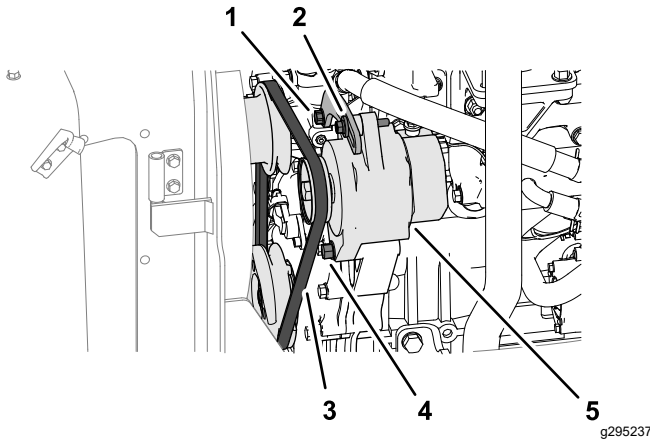

Figure 71
1. Apply 10 kgf (22 lb) of force against the alternator belt (Figure 71), midway between the pulleys.
- If belt deflection is less than 10 mm (3/8 inch), loosen the alternator pivot bolt and tension bolt (Figure 71), and reduce the belt tension.
- If belt deflection is greater than 10 mm (3/8 inch), loosen the alternator pivot bolt and tension bolt (Figure 71), and increase the belt tension.
Note: If needed, loosen the tension bracket bolt (Figure 71).
3. Tighten the bolts (Figure 71).